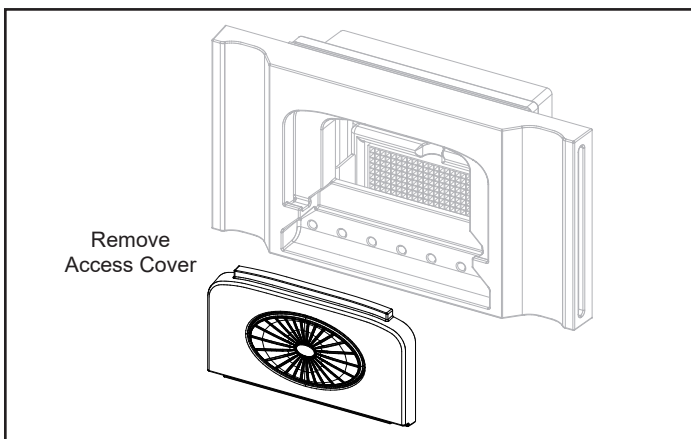

Figure 2 - Remove access cover.
2. Remove the access cover by pulling straight up and out, Figure 2.